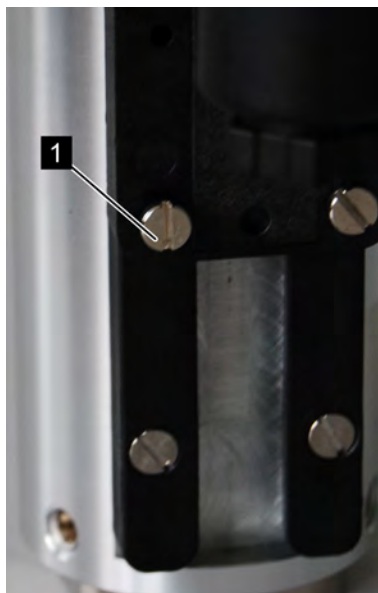

Fig. 34: Loosen set screws
1. ➔ Loosen the set screws of the switch contact (Fig. 34/1) using a flat-bladed screwdriver
6. ➔ Tighten the set screws of the switch contact (Fig. 34/1) using a flat-bladed screwdriver. When doing so, observe the correct tightening torque of the screws.